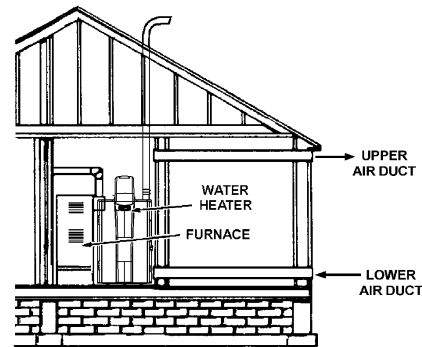

FIGURE 14
3. When communicating with the outdoors through horizontal ducts, each opening should have a minimum free area of 1 square inch per 2,000 Btu per hour (11 cm²/kW) of total input rating of all equipment in the enclosure (see Figure 14).
4. When ducts are used, they should be of the same cross-sectional area as the free area of the openings to which they connect. The minimum short side dimension of rectangular air ducts should not be less than 3 in. (7.6cm) (see Figure 14).